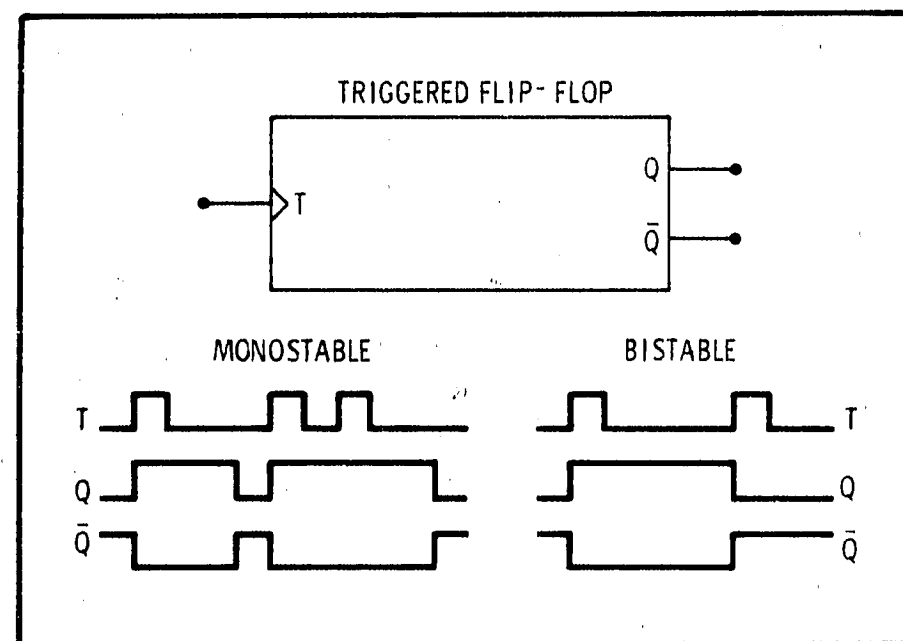

Figure 8-2. Triggered Flip-Flop
8-23. **Triggered Flip-Flop.** There are two kinds of triggered flip-flops. The bistable triggered flip-flop (Figure 8-2) changes state each time the trigger input (T) changes to the appropriate state. This effectively divides the input by two, giving one output pulse at the Q output for every two input pulses.